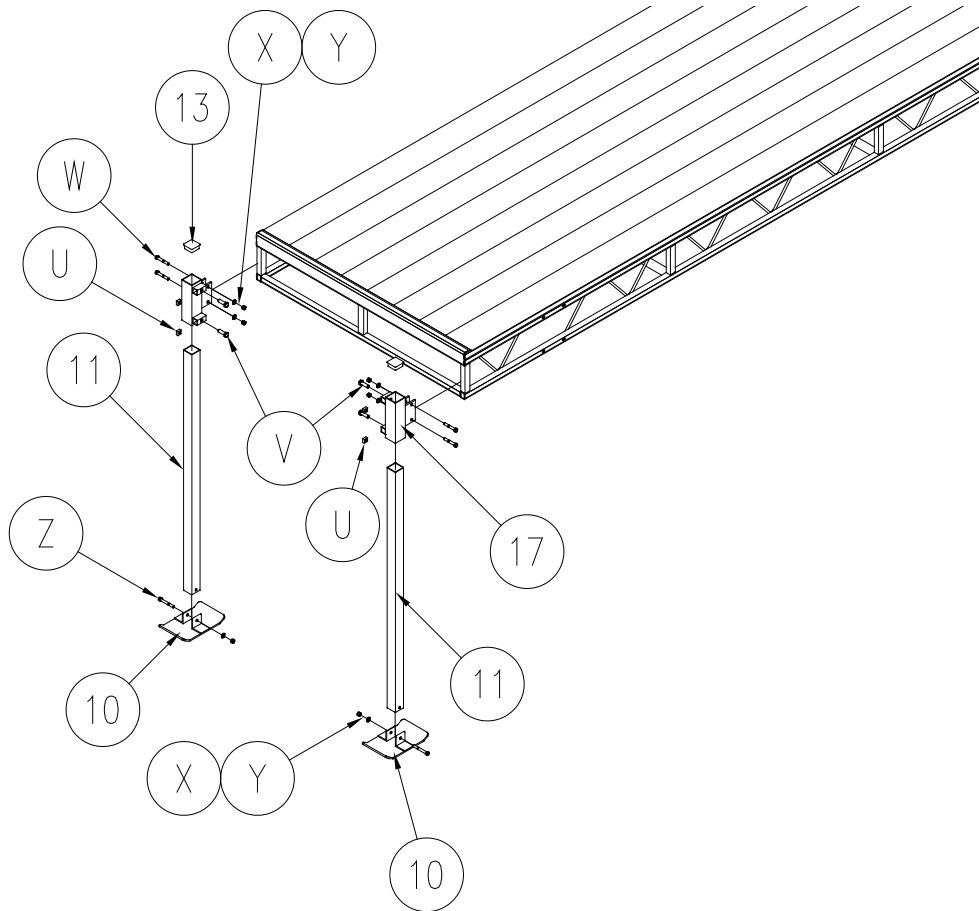

Figure 2-11
1. (Refer to **Figure 2-11**) Attach the dock end shoreline support bracket weldment (detail 17), to the dock frame. Fasten using two each, 3/8" hex head cap screw (detail W), flat washer (detail Y), and hex nut (detail X). Tighten securely.